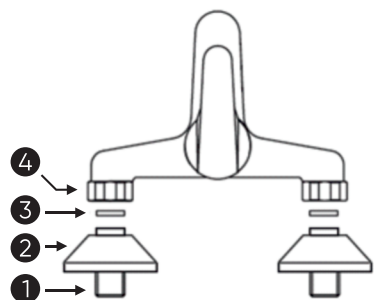

Fig.2
The taps should be installed in the following order: (see fig. 2) - screw in the eccentric connections (1) to the system section ended with the internal thread G1/2, sealing the connection with Teflon tape (avoid applying too much seal) - the axes of the eccentric holes on the side of G3/4 thread (or on the side of the double O-ring seal in the taps equipped with such eccentrics) should be at same height.